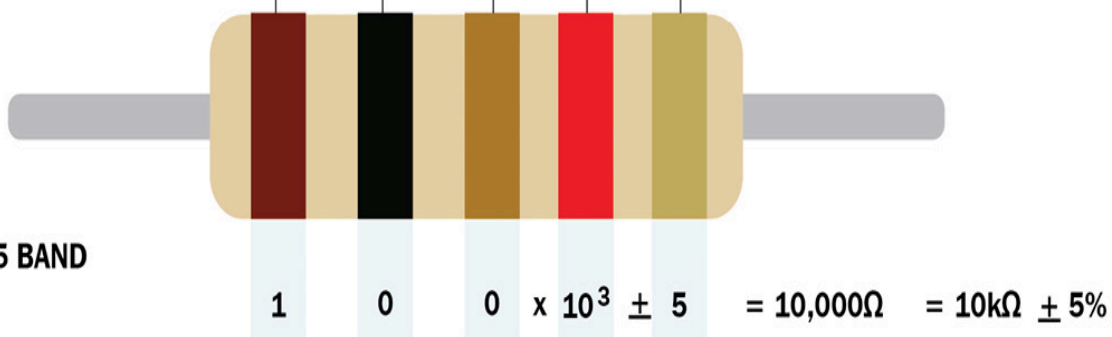

Figure 1.2 – A chart showing how to calculate a resistor value. Image source: "Resistor Color Code", by Adim Kassn, licensed under CC-BY-SA-3.0
*Figure 1.2* shows how to read the values of a resistor:
*As shown in Figure 1.2, the band colors are:*